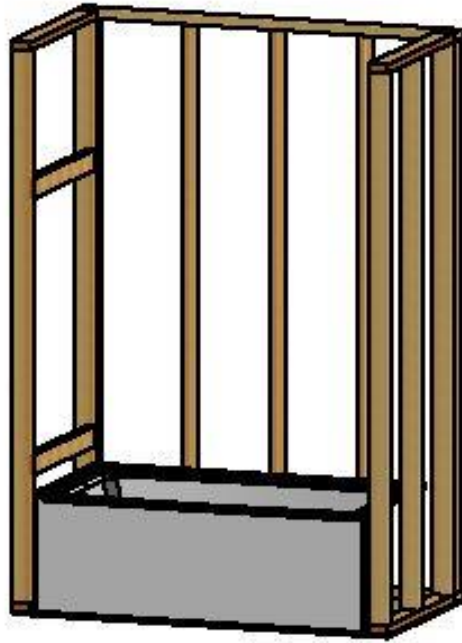

Fig 1
2. Carefully mark the location of the fill spout, shower valve and shower head if they will be mounted in the wall panel. No marking is necessary for the shower head if it is mounted above the wall panel. (Fig. 1)